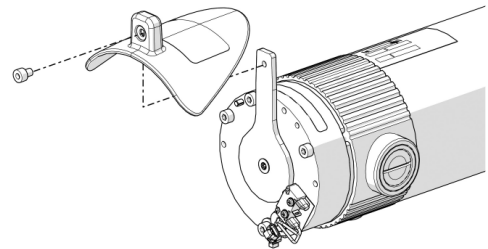

Fig. 1. The Brake Release Cover is fitted with one screw.
2. Fit the brake release cover with the attached screw (M4x5). See fig. 1.